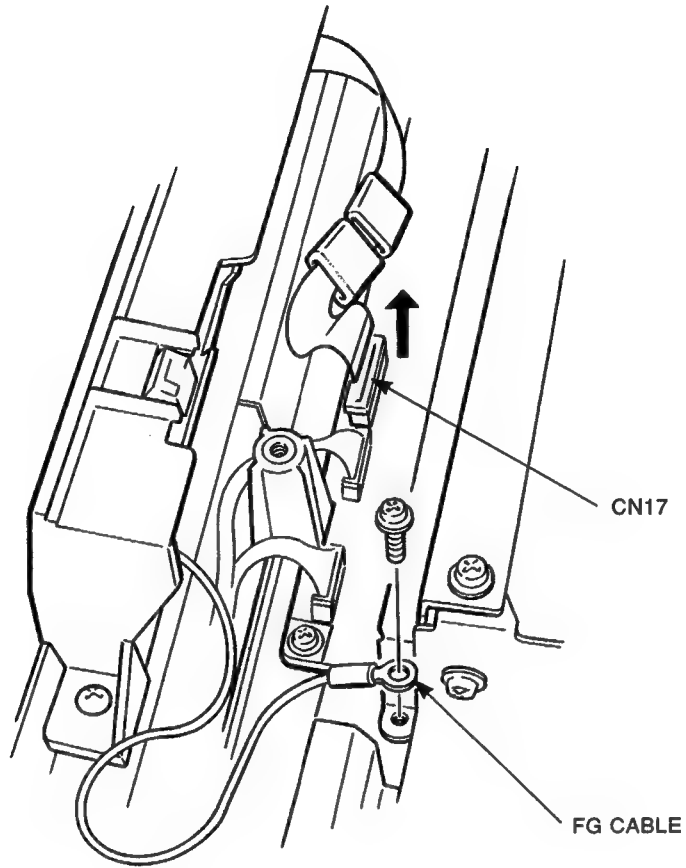

Figure 3-68 Control Panel Cable
2. Pull up both ends of the connector lock CN17 and remove the cable from the unlocked connector (see Figure 3-68).
3. Remove the FG cable by removing the screw securing it to the shield cover (see Figure 3-68).